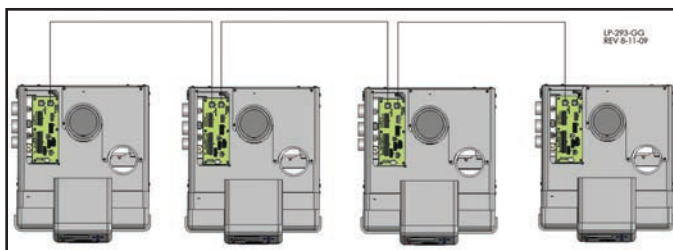

Figure 23 - Wiring Cascade System
1. A Cascade Bus Termination Plug has been installed on the customer connection board of this boiler. The purpose of this plug is to stabilize communication between multiple boilers and reduce electrical “noise”. See Figures 23 and 24 for Cascade Bus Termination Plug installation detail.